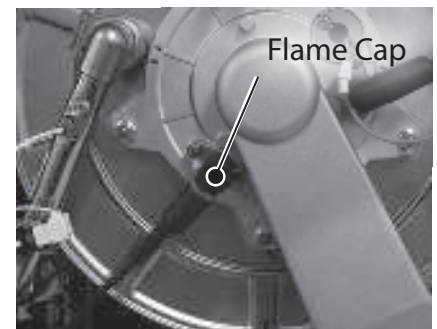

Figure 73 - Remove flame sensor cap
- 5** Locate the flame sensor on the burner assembly as shown in Figure 73. Remove the cap from the flame sensor. **DO NOT** pull on wires.